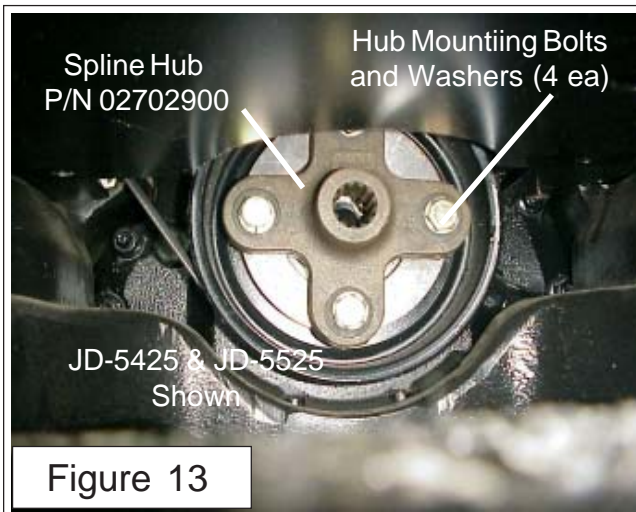

Figure 13
NOTE; This spline bolt on hub will apply to JD-5425 & 5525 Only). The Splined Hub (P/N 02702900) bolts to the pulley adapter (See Figure 13). The Hub has 7/8" X 13 Spline center with four mounting bolts & Lockwashers (P/N 02976344 Bolt, Hex Head 7/16"-NC X 1-1/4" - PL - GR8 and P/N 00022200 Lockwasher 7/16" PL). Torque the mounting bolts to 65 ft. lbs. (See Figure 13).
17. Install Pump Drive Shaft. The pump Drive Shaft has a 7/8" X 13 spline end and a 3/4" w/ 3/16" keyway end (See Figure 23 & 23A). The 7/8" x 13 spline end goes toward the engine and fits into the spline hub that was bolted to the crankshaft (See Figure 13, 13A & 13B). Coat the splined end of shaft with an anti-sieze compound before inserting it into the splined hub.